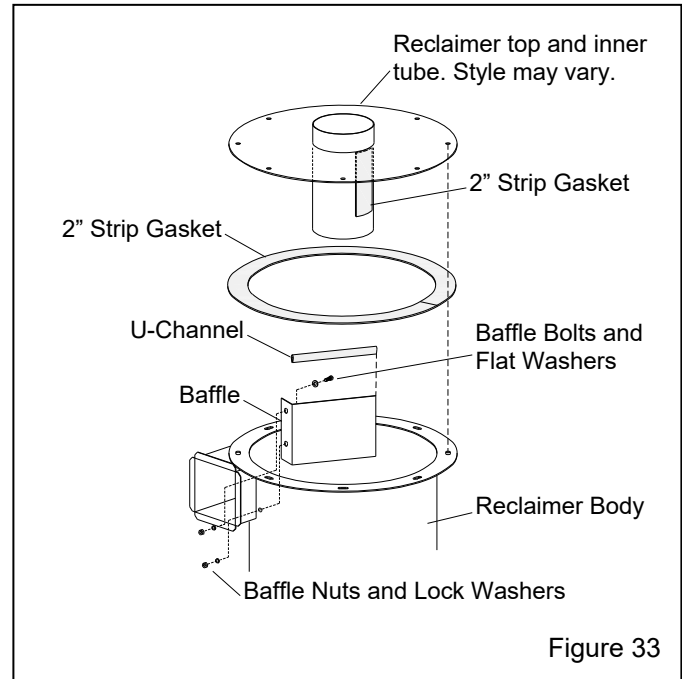

Figure 33
7.12 Removing or Replacing Reclaimer Inlet Baffle Figure 33